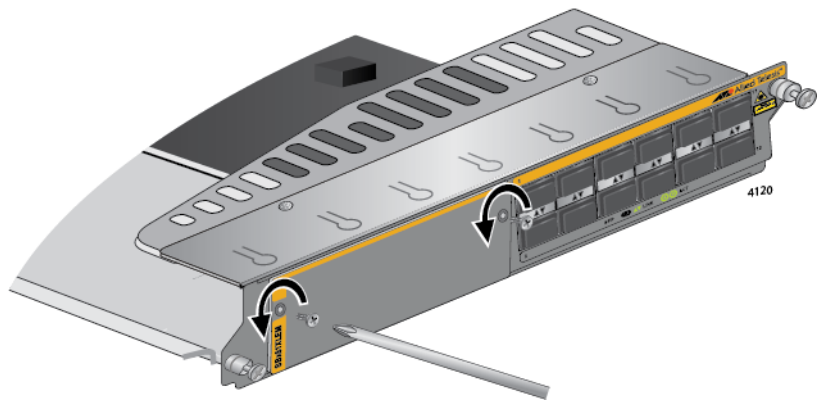

Figure 73. Removing the Screws on the Blank Slot Cover on the AT-SBx81XLEM Line Card
4. With a #2 Phillips-head screwdriver, remove the two screws that secure the blank slot cover to the card. Refer to Figure 73.